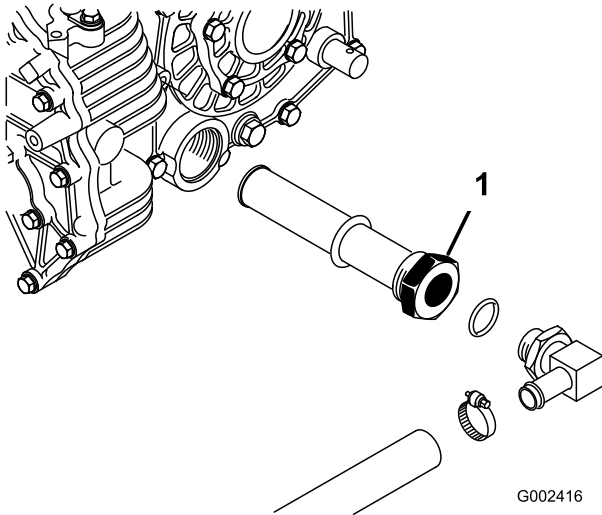

Figure 70
5. Note the orientation of the hydraulic hose and 90° fitting connected to the strainer on the side of the reservoir (Figure 70).